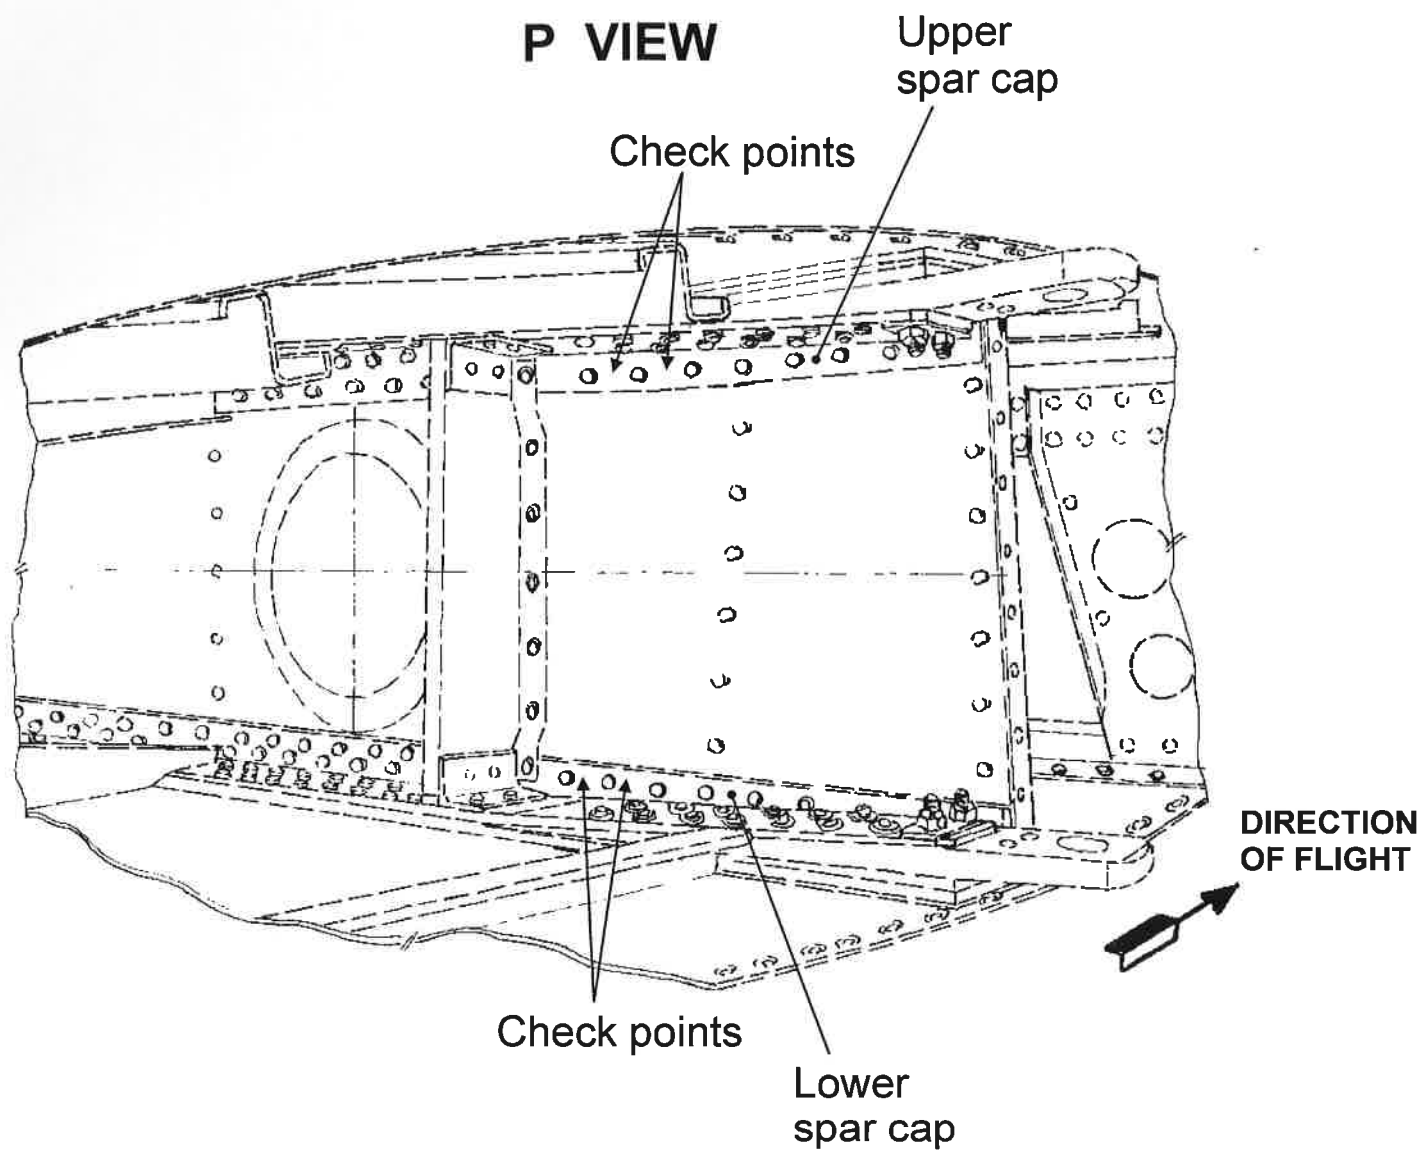

Fig. 2 - Check points on the upper and lower spar cap
For check is accessible the vertical part of the spar cap, adjacent to the spar - refer to the fig. 2.
Carry out the check in the areas described on the fig. 2.
- Measuring contact points: upper and lower spar cap (between rivets) - refer to the fig. 2.
- d. Repeat the measurements several times for verify the results, in the several areas described on the fig. 2.
4. If the values measured during the check are within the permissible limits specified make a record in the sailplane logbook (see section I of this Bulletin) and inform the manufacturer of the sailplane as instructed in Section A, item 5 of this Bulletin.